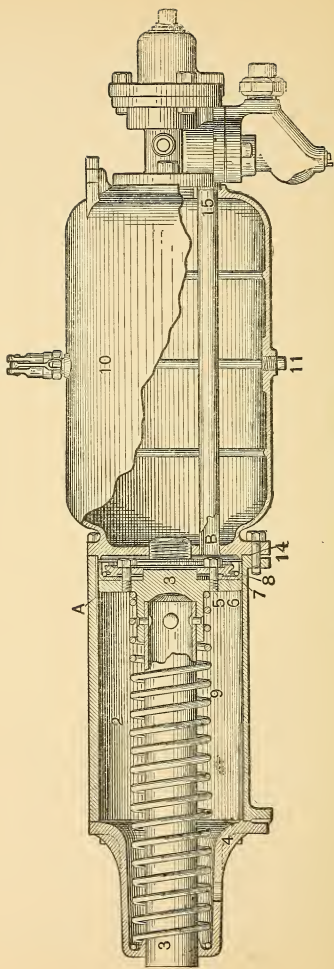

FIG. 7.—FREIGHT EQUIPMENT.
A. 3 (Fig. 7) is the piston sleeve and head, 9 the release spring, 4 the front cylinder head, 2 the cylinder body, *A* the leakage groove, 7 the packing leather, 8 the expander ring, 6 the follower plate which holds the packing leather 7 to its place, *B* the pipe connecting the triple valve and brake cylinder, and 15 the gasket which makes a tight joint between the auxiliary, triple, and pipe *B* leading to the brake cylinder.
*Q. Explain the use of the release spring 9 (Fig. 7).*
*Q. What enters the sleeve 3 (Fig. 7)?*
*Q. Of what use is the leakage groove A (Fig. 7) ?*
*Q. Of what use is the auxiliary 10 (Fig. 7) ?*